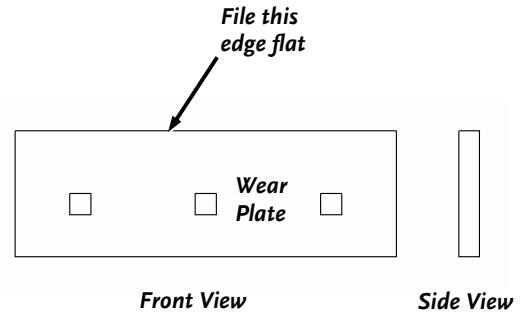

Figure 38
2. File the edge of the Wear Plate to take out any nicks and to square rounded edges (**Figure 38**).